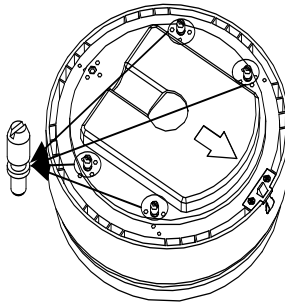

Figure 2-17 Install the bolts
- 3). Install four bolts to the screw holes as shown in Figure 2-17.